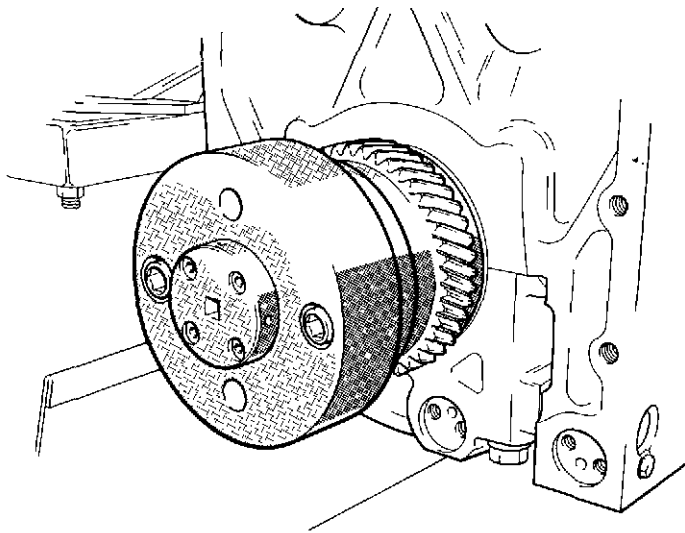
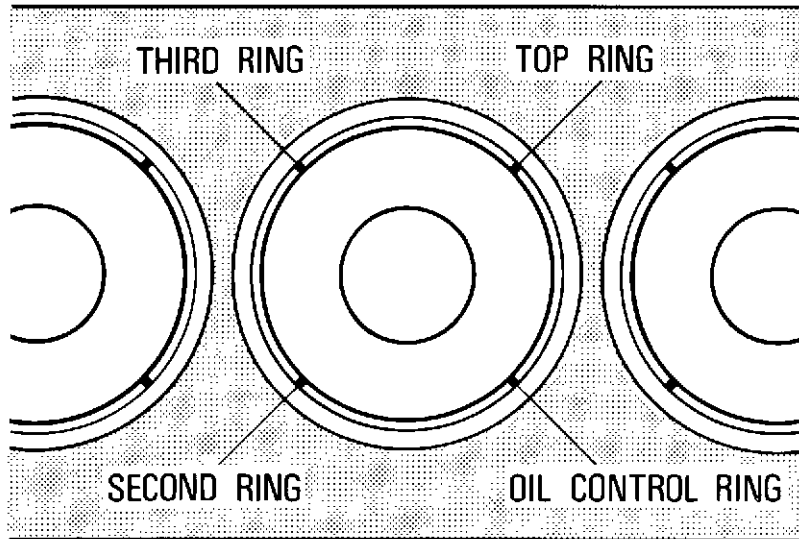

Fig. 7 Barring adaptor
Fig. 8 Piston ring gaps
- 19 Fit the crankshaft Barring Adaptor, VT 11144, to the rear end face of the crankshaft (fig. 7), and turn the shaft until the 'A1' crankpin is at B.D.C. Check that the upper half of the big end bearing shell is in position on the 'A1' piston/connecting rod assembly. Stagger the piston ring gaps as shown in figure 8, oil the crankpin, big end bearings and piston, and slide the Piston Ring Sleeve, GA 5094, over the piston to compress the rings. Screw the Guide Pin, GA 5092, on to one of the big end bearing bolts.